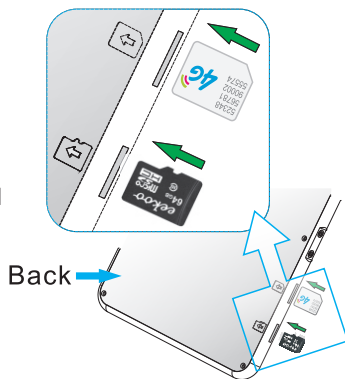

Fig. 2-4
**1. SIM card insertion:** Please insert the SIM card in the power-off state, one side of the magnetic piece is pushed toward the front of the main unit, and the corners are pushed outwards until the card is tightly clamped (as shown in Figure 2-4).
As shown in Figure 2-4, one side of the chip is inserted into the TF card slot toward the front of the host.